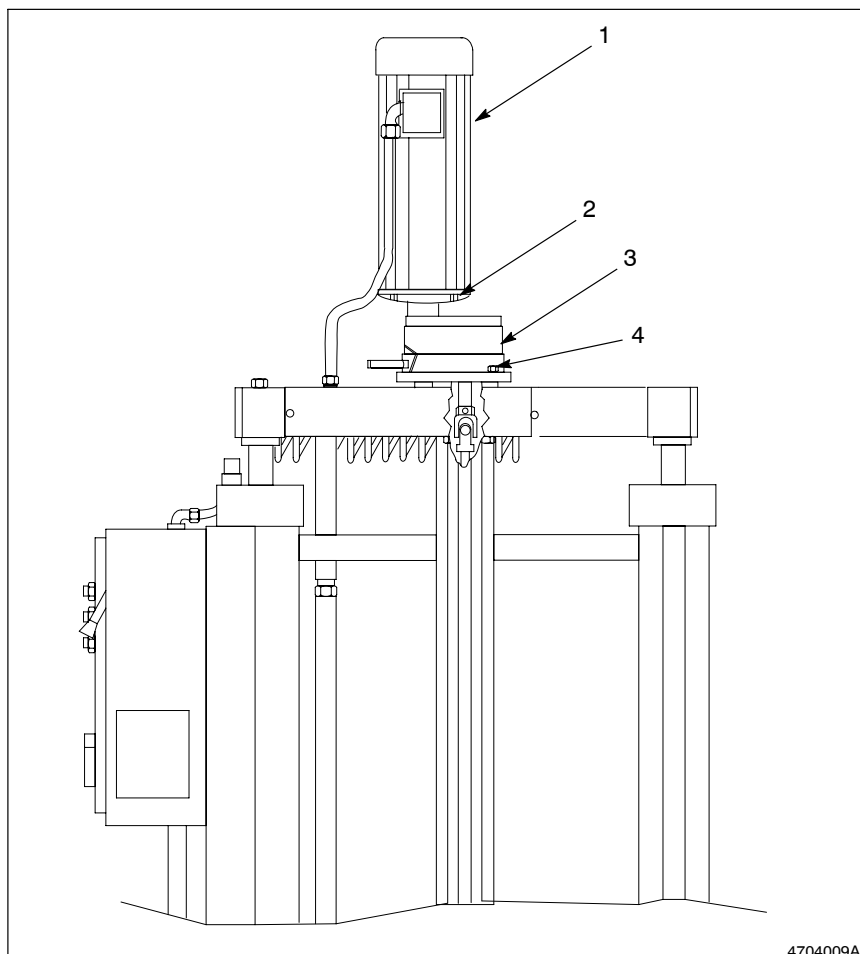

Fig. 7-38 Drive Assembly Details
5. See Figure 7-38. Remove the four hex-head screws and split lockwashers (2) that secure the motor (1) to the speed reducer (3).
6. See Figure 7-38. Remove the four hex-head screws and split lockwashers (2) that secure the clutch (1) to the speed reducer (3). Remove the key from the clutch/speed reducer keyway.